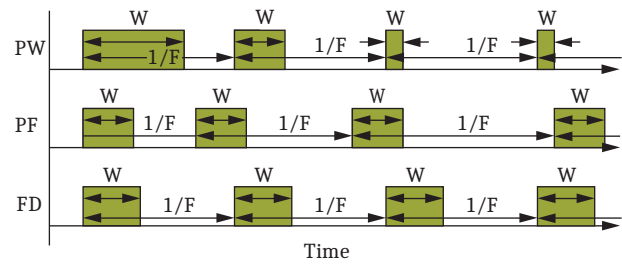

Figure 30 Control Pulses
- **Proportional Width (PW).** The pulse width (W in Figure 30) is proportional to the error signal (slip or voltage difference) and the pulse period is fixed.
- **Proportional Frequency (PF).** The pulse width is fixed and the pulse frequency (F in Figure 30) is proportional to the error signal. PF may be more suitable in control systems that require a definite minimum pulse width.
- **Fixed (FD).** Both the pulse-width and the pulse frequency are fixed. This control mode may be more suitable for control using certain distributed control systems.